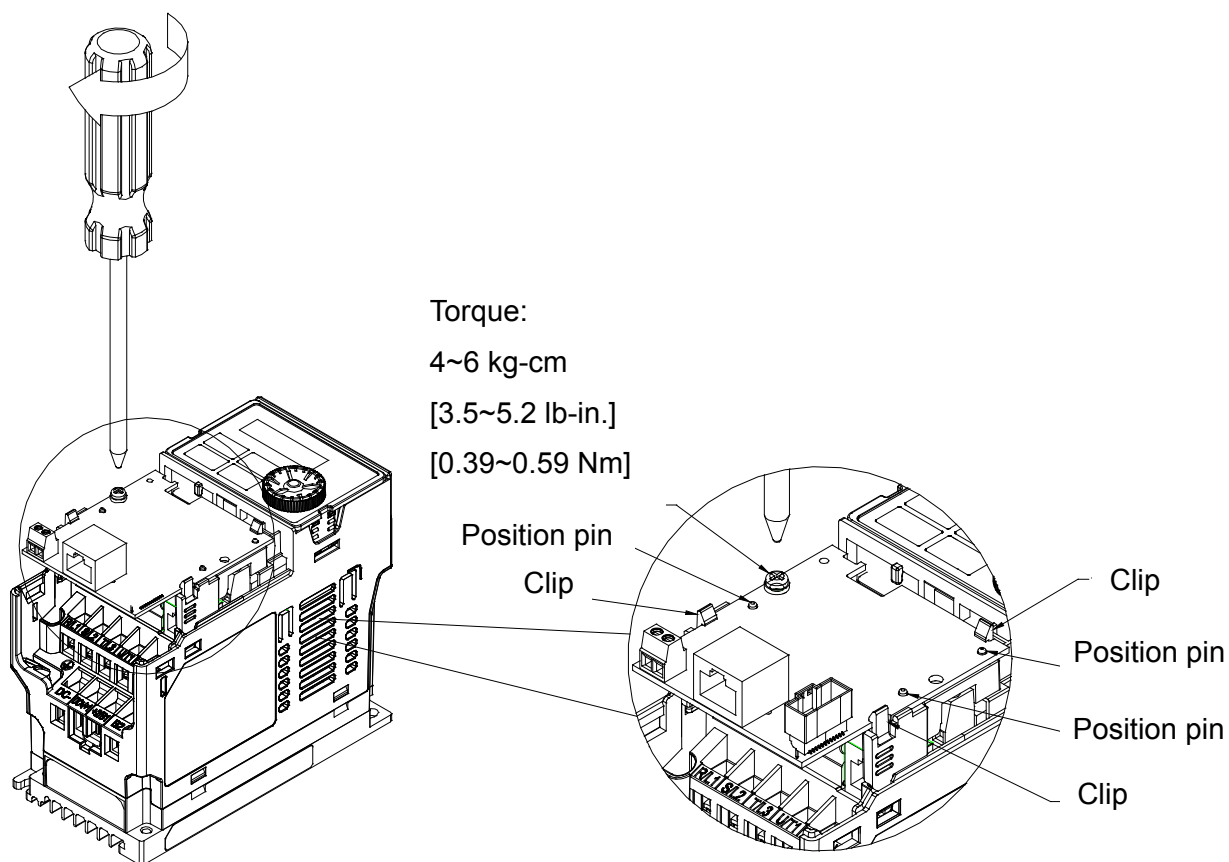

Fig. 3
5. Wiring after the communication card fixed fitting is clipped with the holes (see  NOTE). Fasten the screw if the communication card maintains front mounting. Torque: 4~6 kg-cm / [3.5~5.2 lb-in.] / [0.39~0.59 Nm], do not close the front cover at this time. (shown in Fig. 3) If close the front cover, please refer to the subsequent steps.